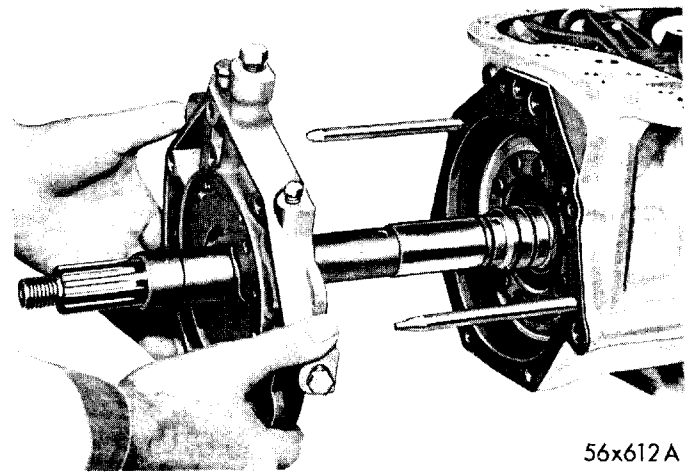

Fig. 39—Removal and Installation of Output Shaft Support
(1) Slide the output shaft rear support assembly and gasket from transmission case, as shown in Figure 39. If rear support is stuck to transmission case, it can be loosened by tapping lightly with a soft hammer.
(2) Remove thrust washer from front end of support plate or output shaft.
(3) Remove guide studs, Tool C-3283 from transmission case.